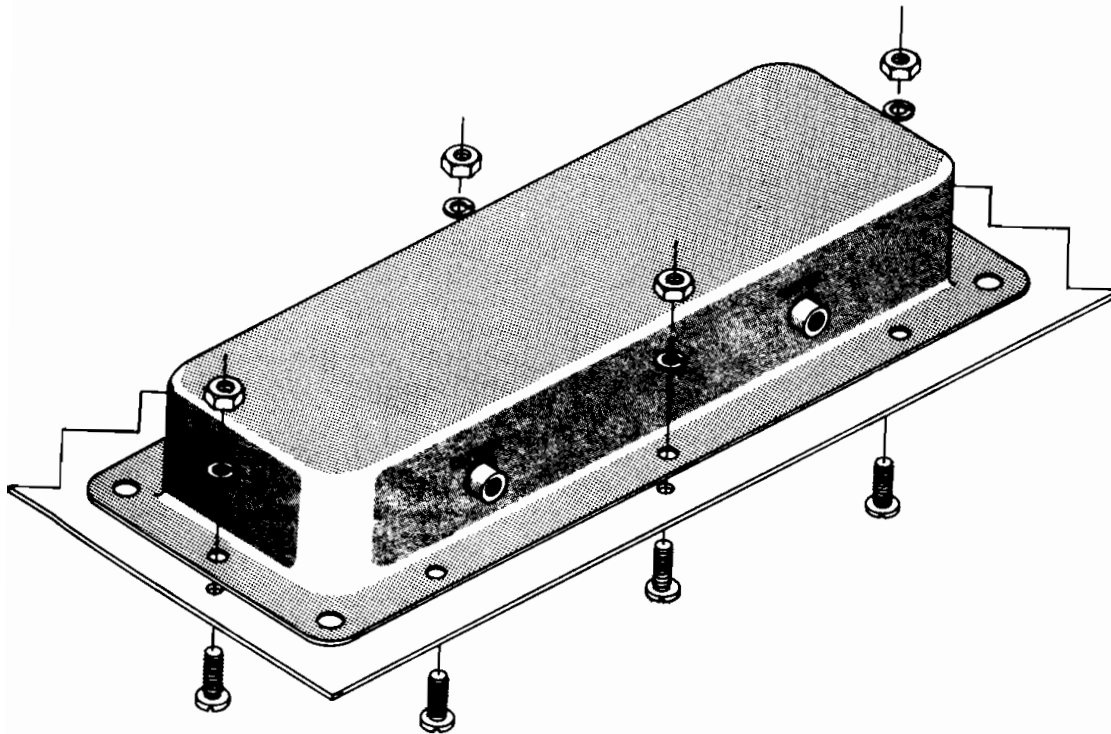

Figure 7 - Fasten reverb spring in place with #8 hardware
- () Using the four 8-32 X $\frac{1}{2}$ inch machine screws, four 8-32 nuts and four #8 lockwashers provided mount the reverb spring as shown in figure 7.